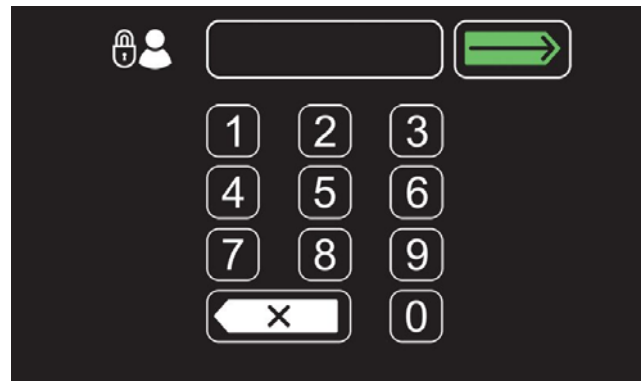

FIG. 169
8. To enable the login screen at start up (Figure 169), see Enabling the Login.